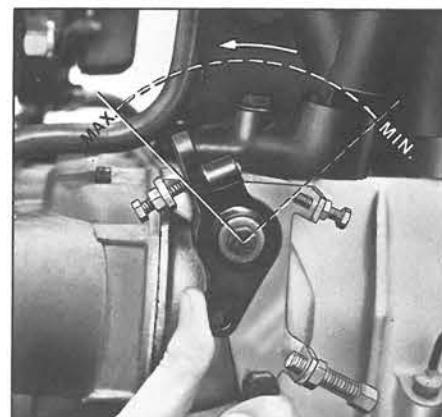

Fig. 16
- 7.1 Push gas lever in position of maximum r.p.m. (fig.16).
- 8.1 Place gas lever to position of maximum r.p.m. (fig. 16).